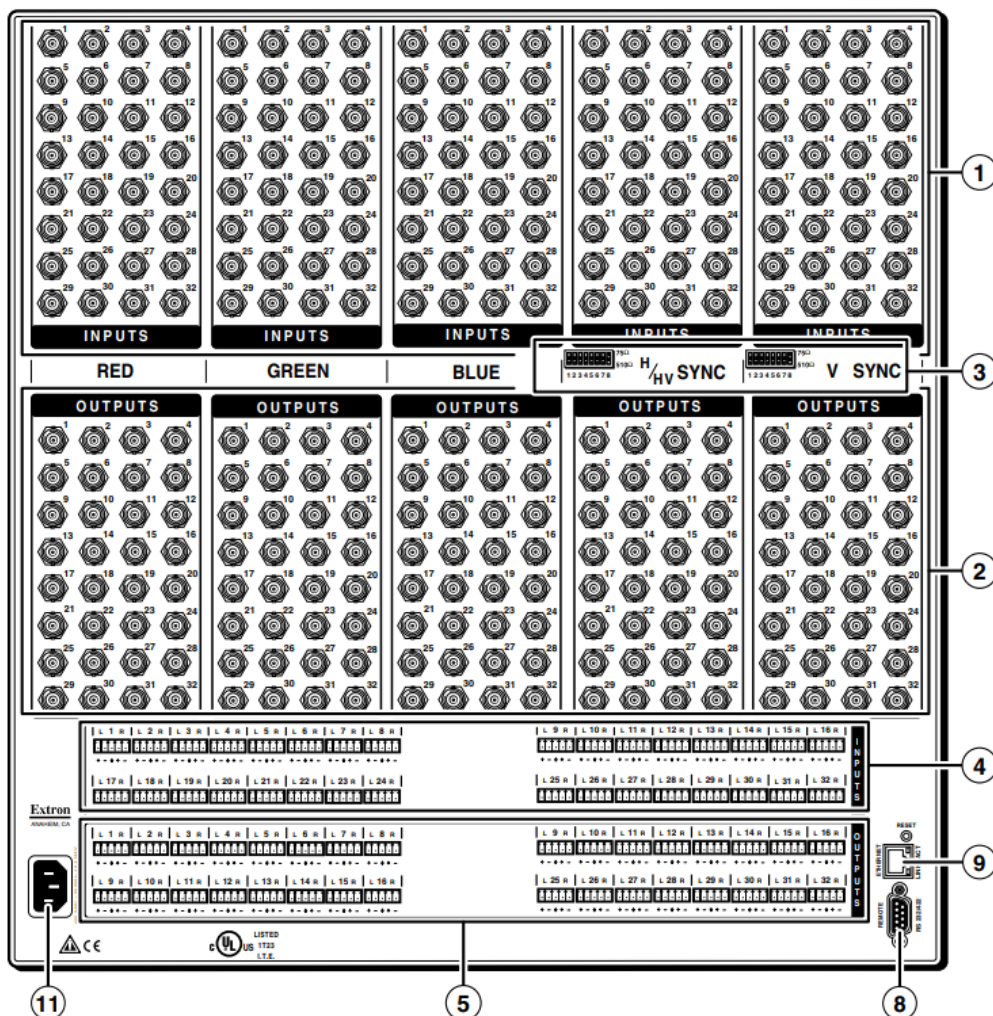
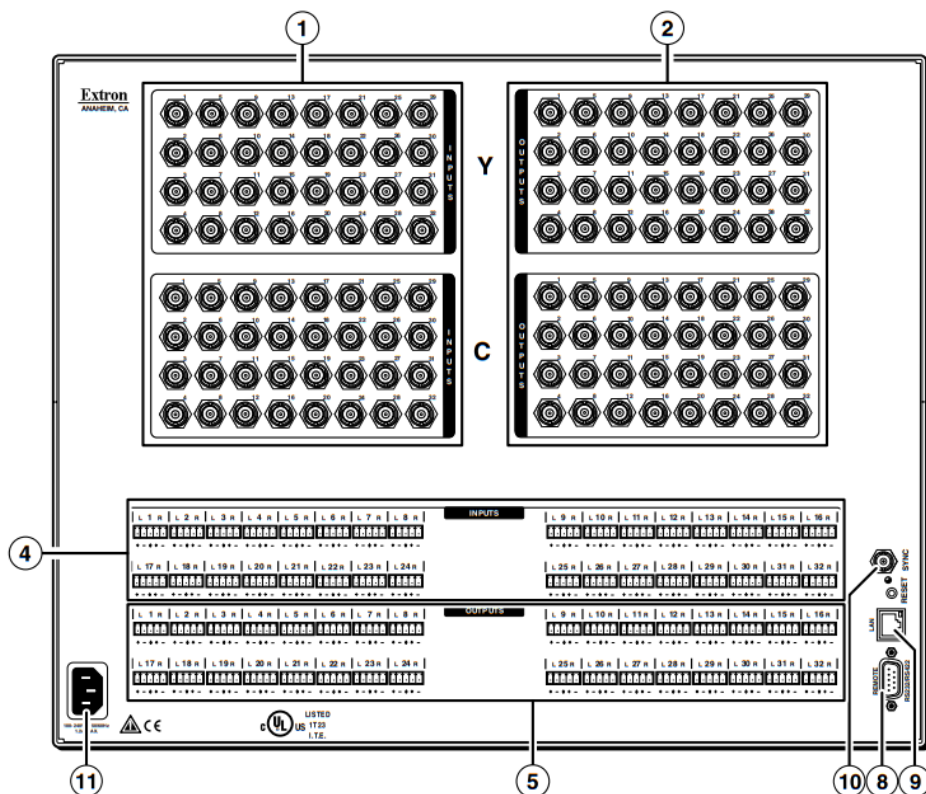

Figure 2. CrossPoint 450 Plus 3232 HVA Rear Panel
Figure 3. MAV Plus 3232 SVA Matrix Switcher
- The CrossPoint 450 Plus switchers are housed in enclosures that range from 8U to 10U (see figure 2) to support their different video format and matrix sizes.
- Smaller matrix sizes within a form factor have fewer input and/or output connectors. The arrangement of connectors and features in switchers with different form factors is different from what is shown in figure 2.
NOTE: The MAV Plus switchers are housed in enclosures that range from 8U (see figure 3) to 2U (see figure 4) to support their different video format and matrix sizes. The arrangement of connectors and features in switchers with different form factors is different from what is shown in figure 2.